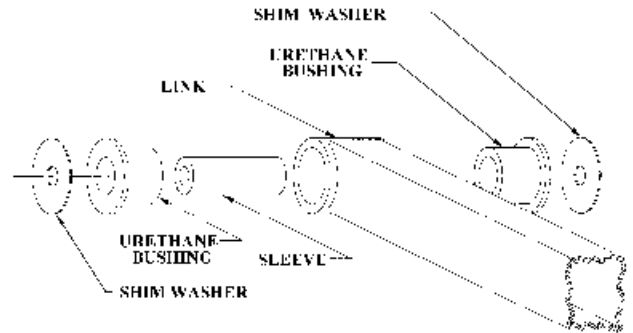

fig. 4
9. Insert two urethane bushings from bag # 860401 in each end of each # 140162 lower link. Next, press one # 420049 sleeve through each end of the lower links. A liberal amount of anti-seize compound will aid in the assembly and will prevent squeaking of the bushings. **Refer to fig. 4**
12. Insert two urethane bushings from bag # 860400 in each end of each # 140163 upper link. Next, press one # 420048 sleeve from bag # 860400 through the bushings on each end of the # 140163 upper links. A liberal amount of anti-seize compound will aid in the assembly and will prevent squeaking of the bushings. **Refer to fig. 4**
13. Install the # 140163 upper link in place of the original upper link with one shim washer from bag # 860400 on each side of the bushings at both ends. Slight prying of the mounts with a screwdriver and/or rotating the lower link cam adjusters may aid the installation. **Refer to fig. 4**